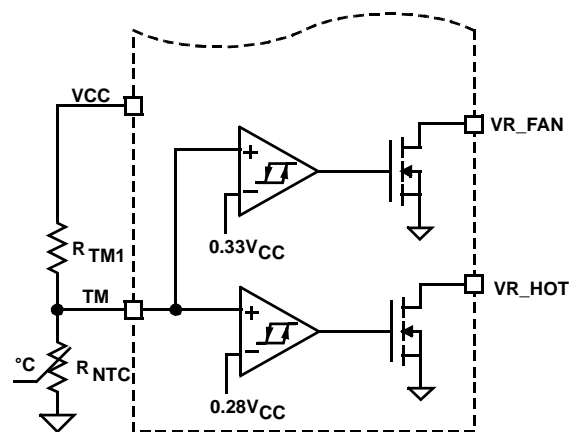
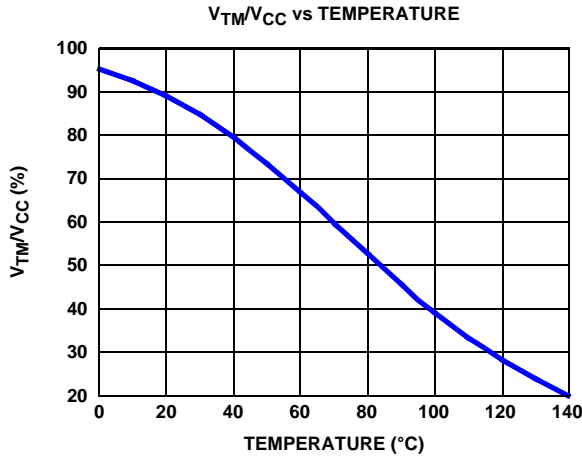

FIGURE 11. BLOCK DIAGRAM OF THERMAL MONITORING FUNCTION
FIGURE 12. THE RATIO OF TM VOLTAGE TO NTC TEMPERATURE WITH RECOMMENDED PARTS
The diagram of thermal monitoring function block is shown in Figure 11. One NTC resistor should be placed close to the power stage of the voltage regulator to sense the operational temperature, and one pull-up resistor is needed to form the voltage divider for the TM pin. As the temperature of the power stage increases, the resistance of the NTC will reduce, resulting in the reduced voltage at the TM pin. Figure 12 shows the TM voltage over the temperature for a typical design with a recommended  $6.8\text{k}\Omega$  NTC (P/N: NTHS0805N02N6801 from Vishay) and  $1\text{k}\Omega$  resistor  $R_{TM1}$ . We recommend using those resistors for the accurate temperature compensation.
Based on  $V_{CC}$  voltage, ISL6326 converts the TM pin voltage to a 6-bit TM digital signal for temperature compensation. With the non-linear A/D converter of ISL6326, the TM digital signal is linearly proportional to the NTC temperature. For accurate temperature compensation, the ratio of the TM voltage to the NTC temperature of the practical design should be similar to that in Figure 12.
1. Properly choose the voltage divider for the TM pin to match the TM voltage vs temperature curve with the recommended curve in Figure 12.